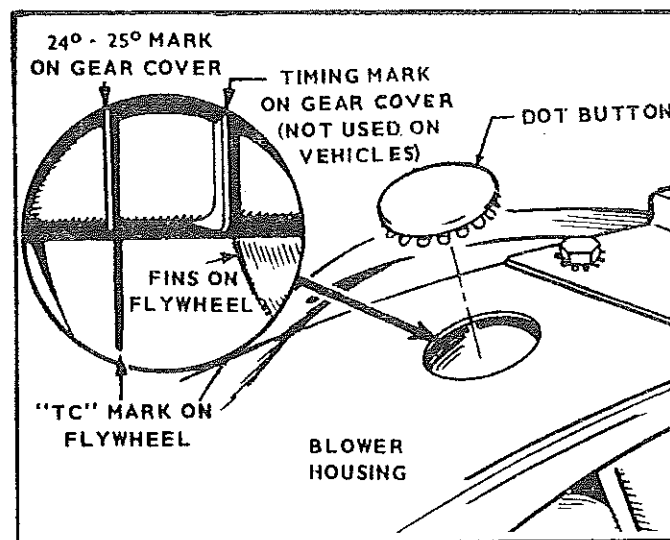

Figure 12. Vacu-Flo Ignition Timing
1. Remove the dot button from the top of the blower housing (Fig. 12).
4. Viewing the timing marks through the round hole in the blower housing, and using a timing light, the TC (top center) flywheel mark should align with the 24-25° mark on the gear cover (Fig. 12).